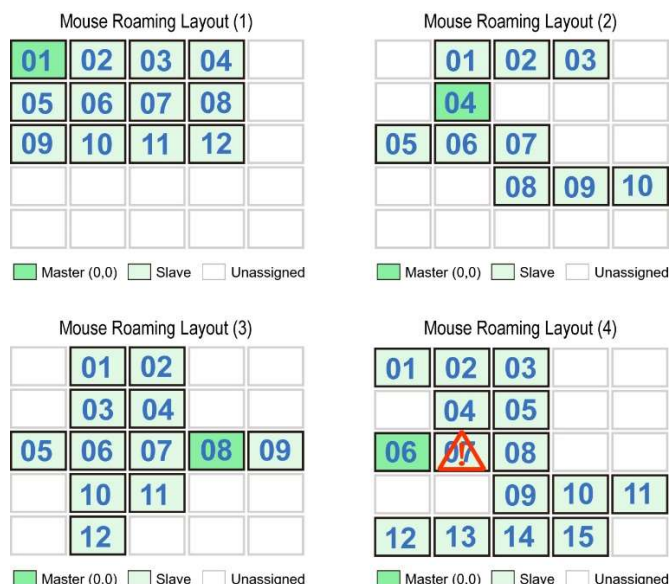

Figure 5-67 Mouse Roaming Group Layout Examples
As all receivers carrying out Mouse Roaming task operate normally, the user can freely move the cursor across all viewable screen areas of all receivers. However, if any of the receivers or the transmitters connected to these receivers becomes offline or failed, as shown at the position 07 of Mouse Roaming layout (4) in Figure 5-67, the user will not be able to move the cursor out of the corresponding viewable screen area of the failed receiver once it enters, thus losing cursor control. To resolve this problem, the user can use the **Cursor Hopping Hotkey** (Right **Ctrl**, Right **Ctrl**, **2-digit number**) to instantly move the cursor to a preferred viewable screen area of any other receiver that is functioning normally, thereby regaining cursor control. Meanwhile, the user should notify a technician to replace the failed TX/RX units as soon as possible to keep the system running smoothly. The cursor hopping function can also be used to increase working efficiency by instantly moving the cursor to the desired viewable screen area of the receiver. The definition of the 2-digit number for the Cursor Hopping Hotkey is shown in the following mouse roaming layout examples, moving from left to right and top to bottom.